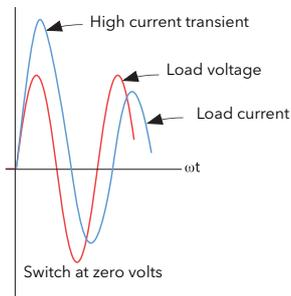

Figure 97 Delayed trigger definition
- Delayed Trigger** Appears only if Mode = Burst, Soft Start = Off, and Load Type = TxFormer. Delayed Trigger specifies the triggering delay, in phase angle, when delivering power into a transformer load. Used to minimize inrush current. the value is configurable between 0 and 90 degrees inclusive (Figure 97).